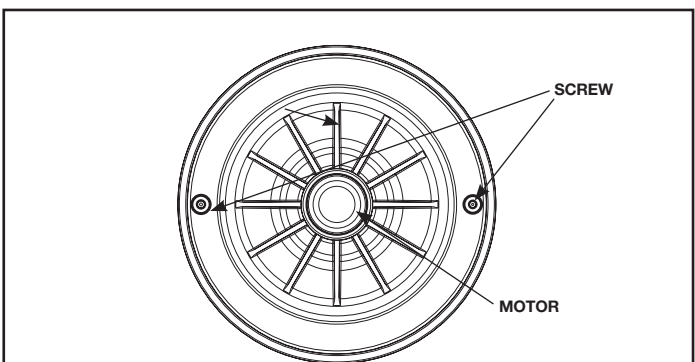

Figure 10 - Seal Plate Replacement
- Carefully slip seal plate over shaft. Do not disturb seal position in seal plate. The seal plate must be orientated during assembly so the two screw holes are on a horizontal line across the motor shaft (Figure 10). This placement should be done to ensure proper draining and priming.